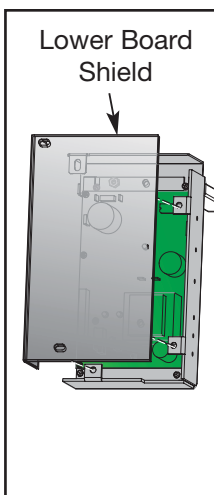

Figure 9
**A.** Pull out on the lower board shield. See Figure 9.
- E. Place the shield into position and push in (the shield will snap in). See Figure 9.
- A. Pull out on the lower board shield. See Figure 9. **NOTE:** It will snap out.